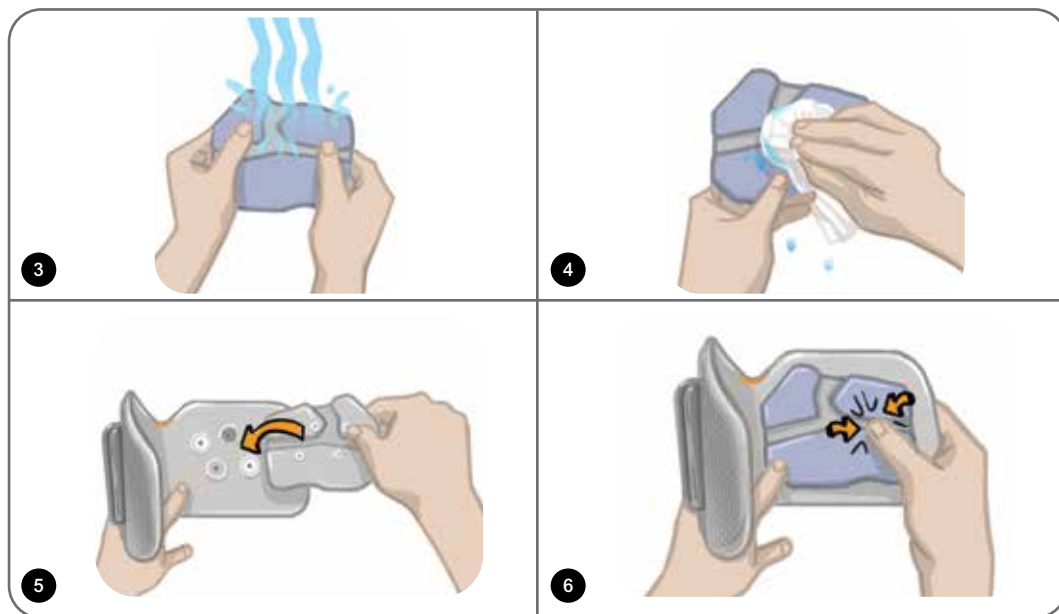

Figure 8-10: Replacing the Steering Electrode
**To replace the Steering Electrodes: (See Figure 8-10)**